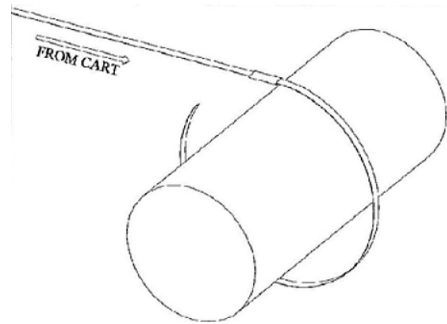

Figure 2
3. Slide end of strap through bottom of seal and fold over the end to form a "hook." (Figure 2) Pull strap snug about package.